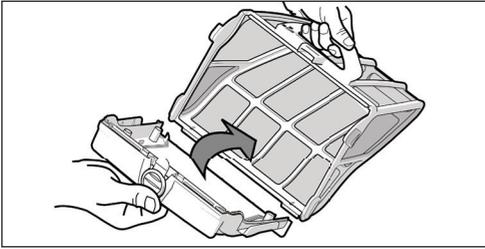

Figure 14. Separate Vanister from Support
6. Separate the filter canister from the filter support. See Figure 14.